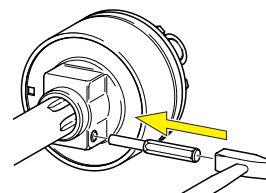

Fig. 4-42
2. Use a hammer and punch, if needed, to moderately hit the end of clamping cone/retaining bolt, as shown. (FIG. 4-42)